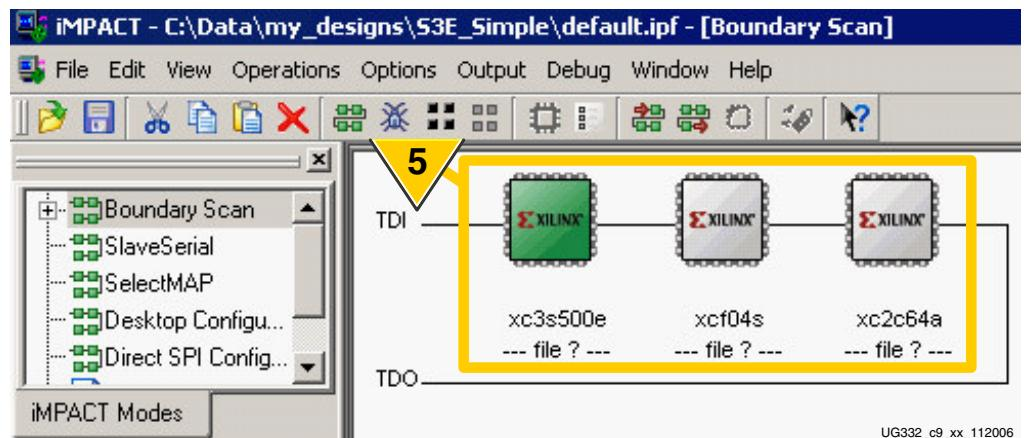

Figure 9-9: iMPACT Automatically Detects Devices on the JTAG Chain
5. As shown in Figure 9-9, the iMPACT software automatically detected the devices on the chain. In this example, a Xilinx XC3S500E Spartan-3E FPGA is first in the chain, followed by a Xilinx XCF04S Platform Flash PROM, followed by a Xilinx XC2C64A CPLD in the final position. The devices are yet unprogrammed.